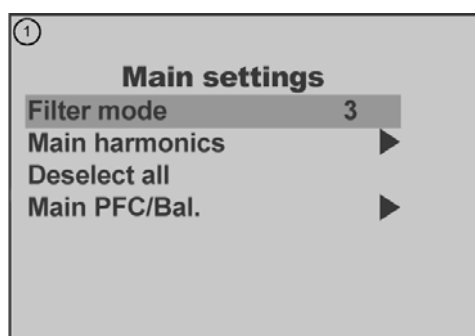

Figure 8.5. Illustration of different menu item types
- When a 'right arrow' symbol is visible next to a menu item, a submenu or sub-item will be opened when pressing the **OK** key after highlighting this item. As an example consider the item 'Main PFC/Bal.' in Figure 8.5.
1. The first field contains a parameter and the second field contains a parameter value which can be changed by the user. As an example consider the item 'Filter mode' in Figure 8.5. When this item is highlighted and **OK** is pressed, the parameter value can be changed. Validation of the value is done by pressing **OK**. Leaving the selected item without modification is done by pressing **Esc**.